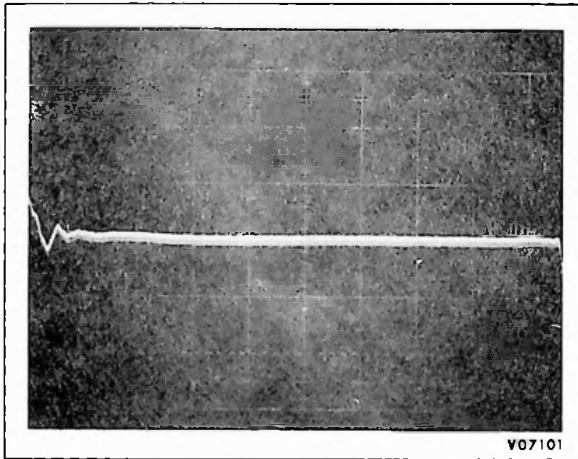

Figure 5.2-16. Amtec Error Detector Display
- e. Connect the oscilloscope probe to terminal E1 on board 6; adjust resistor R1 for zero slope on the 2 Usec shelf (see Figure 5.2-16).